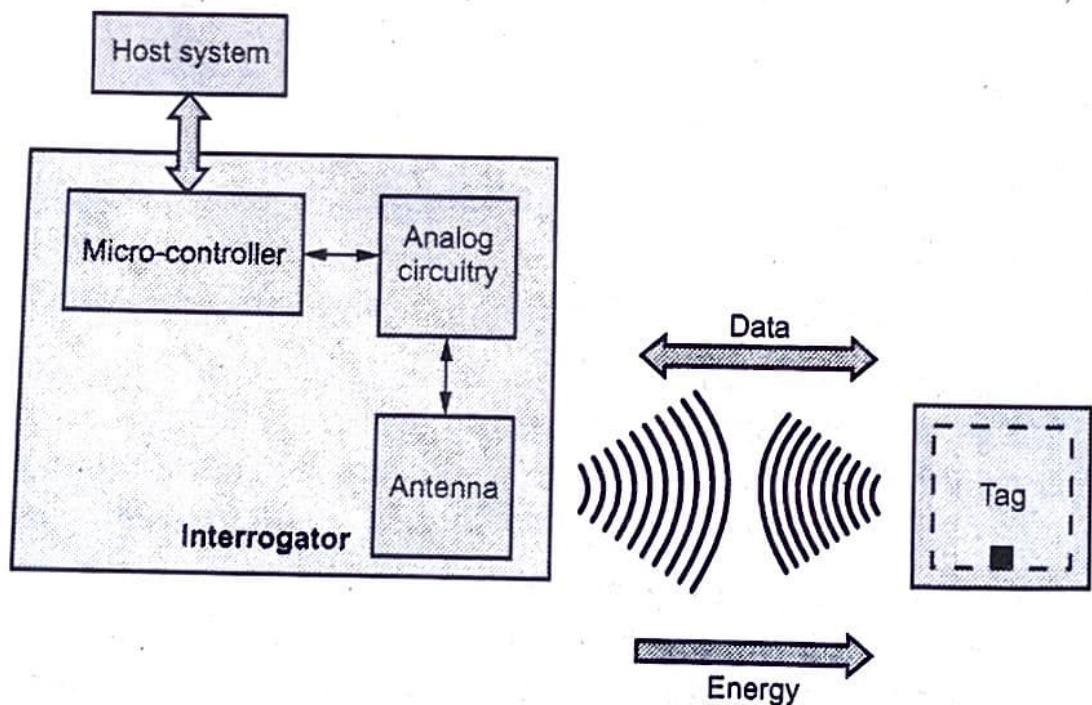

Fig. Q.1.1 Basic RFID system
- Fig. Q.1.1 shows basic RFID system.
(Refer Fig. Q.1.1 on previous page)